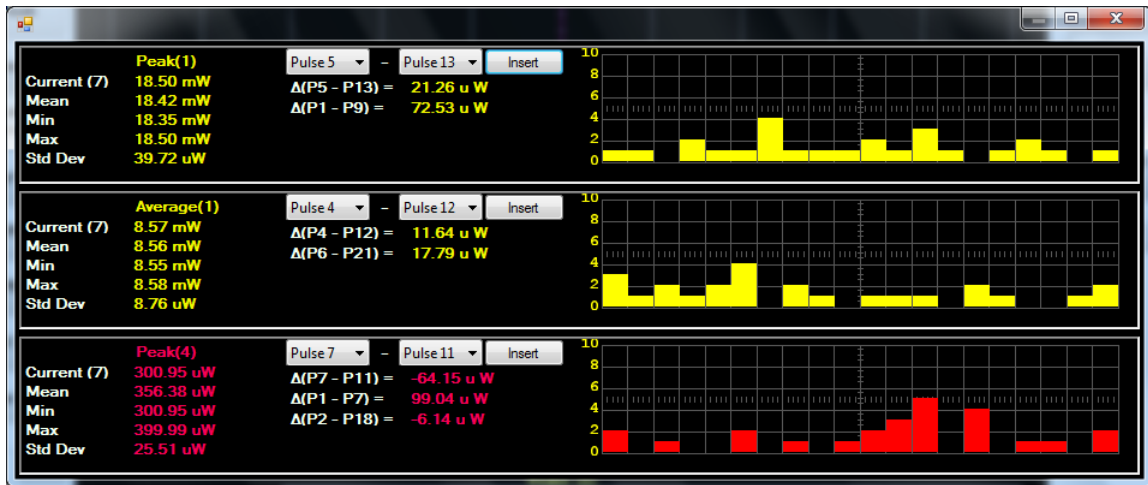

Figure 2-94 Multipulse measurement view dialog
- 5 Select the **L** button to display the measurement view in a separate dialog as shown in Figure 2-94.